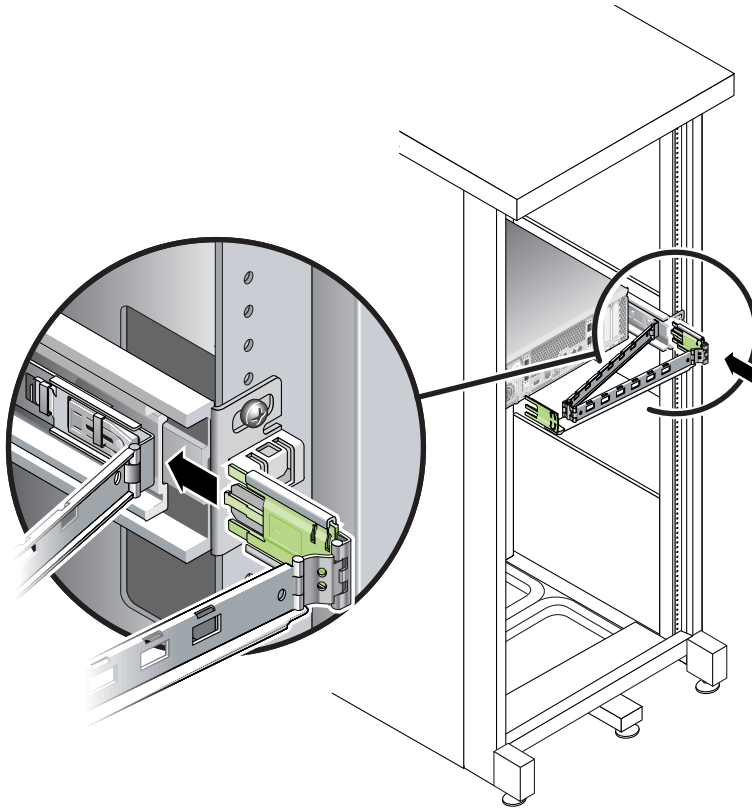

FIGURE 2-23 Attaching the Outer CMA Connector
3. Insert the larger extension into the end of the right sliding rail (FIGURE 2-23).